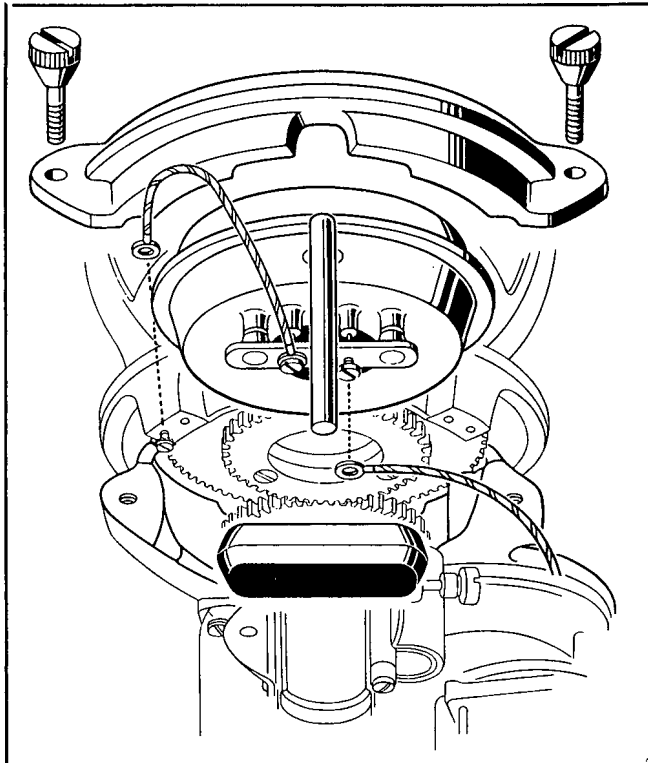

Figure 7-47. Removing Focus Coil
(a) To remove focus coil, first remove the cathode ray tube. See Par. 27a of this section. Loosen the focus coil clamp screws, shown in inset in Fig. 7-113 and remove the two screws that hold each clamp to center casting. Remove clamps. Lift out focus coil. Replace by reversing this procedure. Later models incorporate a single cap clamp held by two thumb-screws as shown in Fig. 7-47. After the focus coil is replaced, it must be adjusted as described in Par. 41c of this section.
18. Loosen the focus coil clamps and remove clamps and focus coil. See Fig. 7-47.